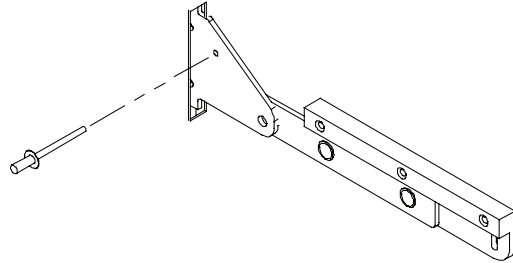

Figure 74: Insert Rivet/Screw/Nail to Keep Hinge Open
2. Open the oven door to its full open position and insert rivets, screws, or nails as shown in Figure 74 to hold the hinges in the open position.